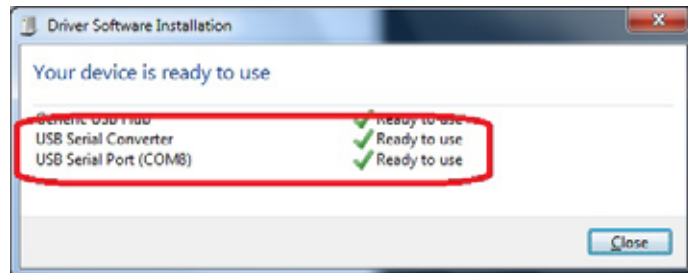

Fig. 4
5. Then it shows 'USB Serial Port (COM8) installed'. Click 'Close' and go next step. (Fig. 4)